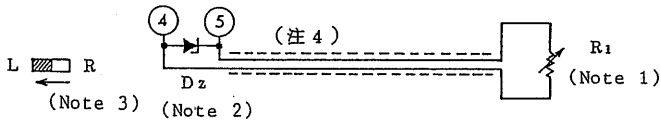

Figure 3-7
- o By connecting a zener diode Dz ($V_z = 11 \text{ V}$, 250 mW) between terminals (4) and (5) as shown in Figure 3-7, the output voltage can be limited at 110% of the rated voltage even when the external resistance circuit is made open.